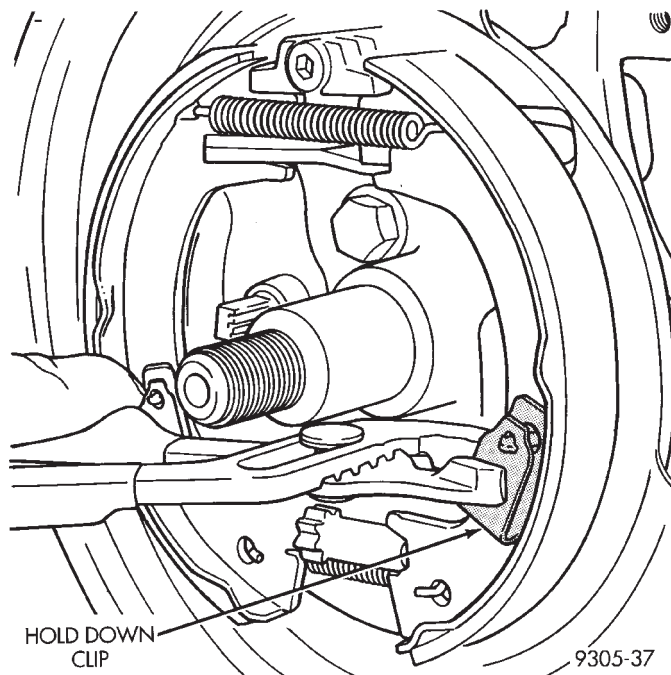

Fig. 9 Installing Rear Parking Brake Shoe Hold-Down Clip
(6) Install rear, parking brake shoe holddown clip (Fig. 9).
(7) Adjust parking brake shoes to a diameter to 171 mm (6.75 inch).
(8) Install rear hub and bearing assembly on spindle.
(9) Install hub and bearing assembly, thrust washer and retaining nut. Torque the hub and bearing assembly retaining nut to 168 N•m (124 ft. lbs.).
(10) Install the nut lock and cotter pin on the rear spindle. Then install hub and bearing assembly dust cap.
(11) Install rear braking disc.
(12) Install rear, disc brake caliper on the adapter (See Brake Shoe Removal).
(13) Install wheel and tire assemblies.